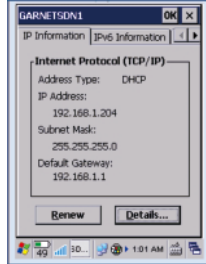

Figure4-7
- 4) Check the IP address after connect to the wireless network successfully as figure 4-7.